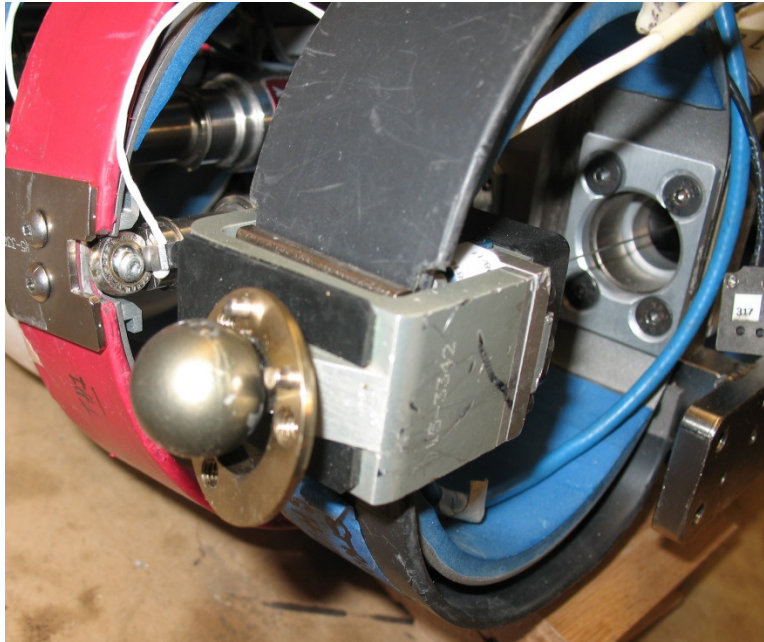

Figure 30. Shoulder load cell with arm removed
- Figure 30 shows the shoulder load cell assembly with the arm removed from the pivot ball